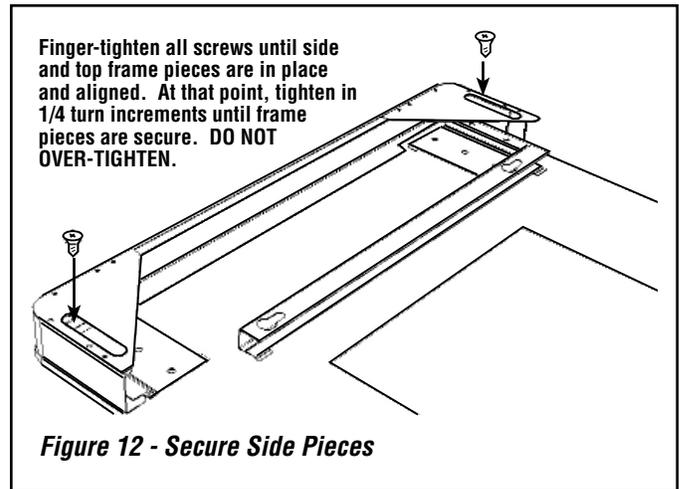

Figure 12 - Secure Side Pieces
3. Ensure the sides are neatly aligned with the glass and secure the sides using two M6 screws for each side as shown in **Figure 12**. Do not overtighten the screws.
- The screws that are used to attach the brackets to the facia as seen in **Figures 12 and 14** below **MUST NOT** be over-tightened. Over-tightening of the mounting screws may cause the glass facia to slip from its brackets. The screws should be finger-tightened until all side and top frame pieces are assembled and aligned. At that point, tighten the screws in  $1/4$  turn increments until frame pieces are firmly positioned and do not move.